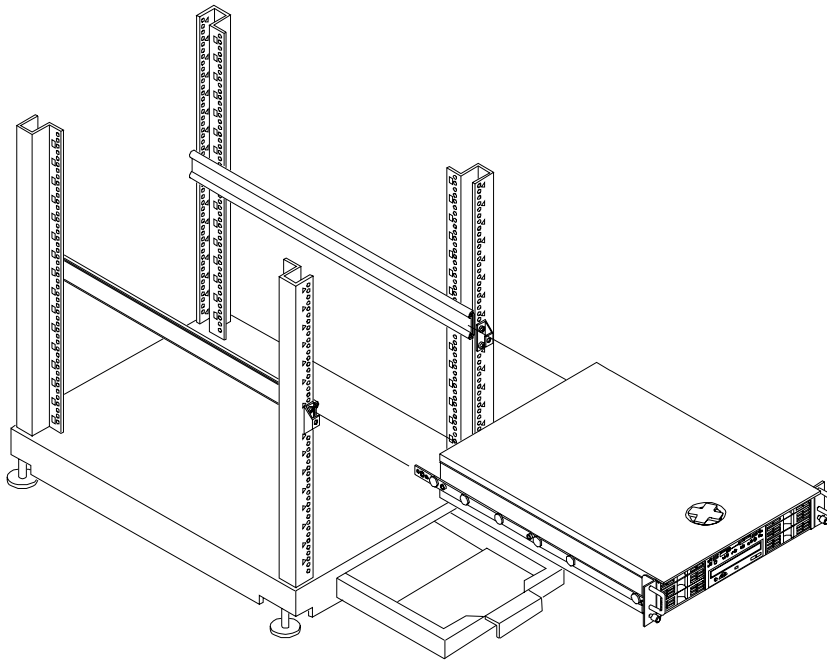

Figure 13-6. Mounting the HP Netserver on the Slides
- b. Slowly insert the Netserver chassis into the slides and push it into the rack until you feel resistance. See Figure 13-6.